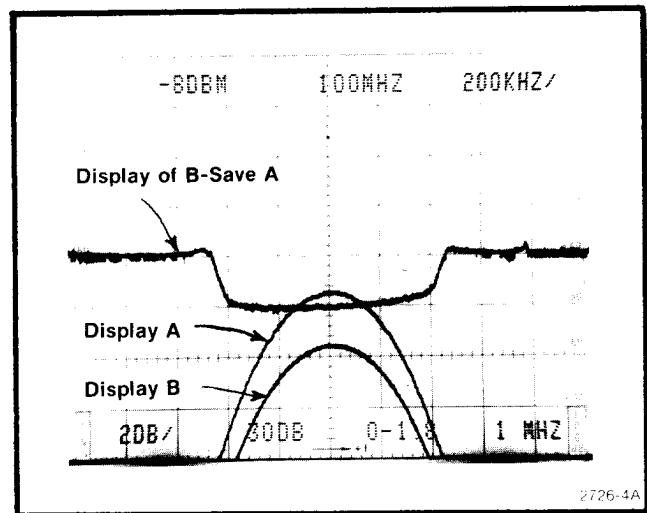

Fig. 3-17. Multiple exposure to illustrate how the differential between two signals can be measured.
d. Activate B—SAVE A. Check that B—SAVE A display is the algebraic difference between display B and display A (see Fig. 3-17).